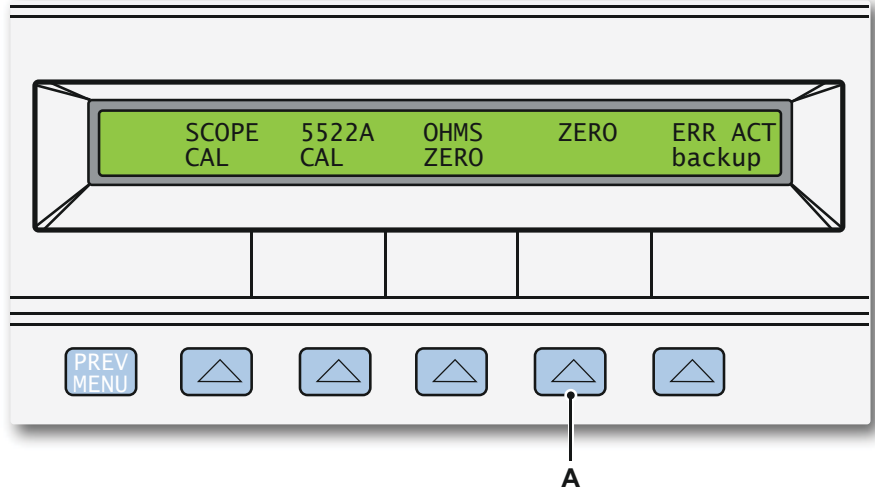

Figure E.16: Fluke 5522A Calibration activity display
- 5 The Fluke 5522A Calibration activity display appears (see Figure E.16). Select the **ZERO** button to perform a complete zeroing of the Fluke 5522A Calibrator.